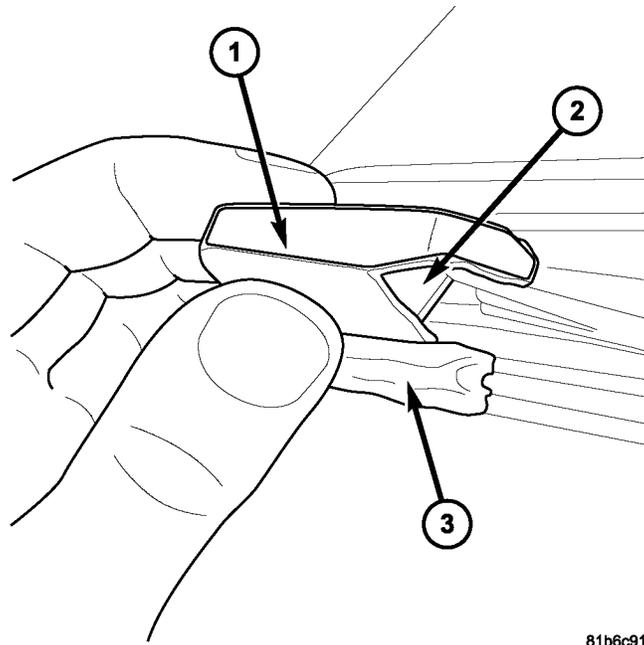

Fig. 3 FOAM AND BUTYL LOCATION
8. If seal replacement is not required, add small amounts of repair butyl, p/n 68027813AA, to any areas of water entry found along the center seal of the Freedom Panel. Replace the foam on the front detail or the foam under the rear detail if it is damaged or missing with replacement closed cell foam in kit, p/n 68026937AA. (Fig. 3)